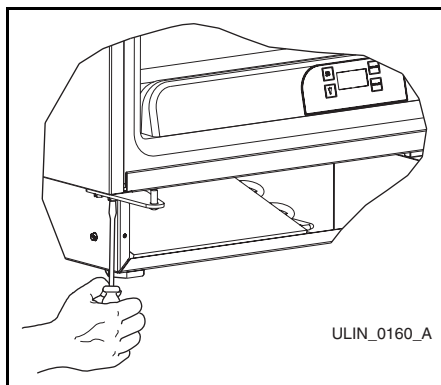

Figure 17
- Install bottom hinge on cabinet, opposite side, aligning flat edge of hinge with outer edge of unit (**Figure 17**). Partially tighten screws.